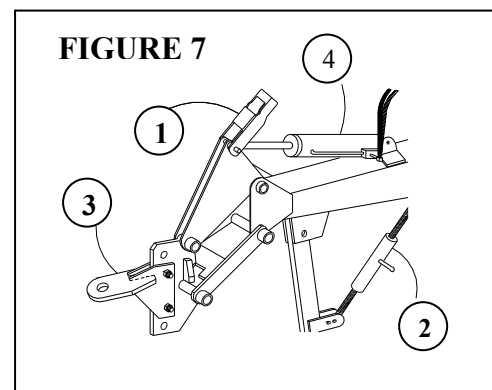

FIGURE 7
- Couple the tractor. If both parts do not match, fold the hitch jack (Fig. 7, Item 2), disengage the leveling cylinder (Fig. 7, Item 4), and engage the hydraulic circuit to obtain the desired coupling height.
IMPORTANT: When in operation, the tongue cylinder (Fig. 7, Item 4) must be completely closed. Do not put the lock or any stops. To level the machine, adjust the perforated plate. (Fig. 7, Item 3).
- Lock the leveling cylinder in the tongue end (Fig. 7, Item 4).
- With the threaded end in the third point (Fig. 7, Item 3) level the machine for longitudinal transport. The tongue load on the drawbar can be varied by engaging the third point. If possible, slightly load it towards the front.
When the drill needs to be in operation position (driven into the ground), it must be horizontal regarding the ground. To achieve this position, raise or lower the plate located at the tongue end (Fig. 7, Item 3) or reverse it if necessary.
The detent hook (Fig.7) in each rod of the opener shafts can adopt three different positions, as shown in Figure 3 A.